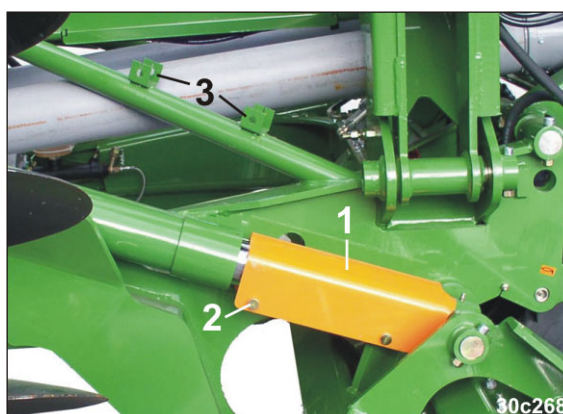

Fig. 204
5. Position the spacer (Fig. 204/1) on the extended piston rod of the hydraulic cylinder and secure the spacer with the previously released bolts (Fig. 204/2).
1. Remove both spacers (Fig. 204/1).
3. Fasten the spacers (see Fig. 203) to the transport mountings (Fig. 204/3).
- if the machine is completely raised and secured with two spacers (see Fig. 204, on page 180).